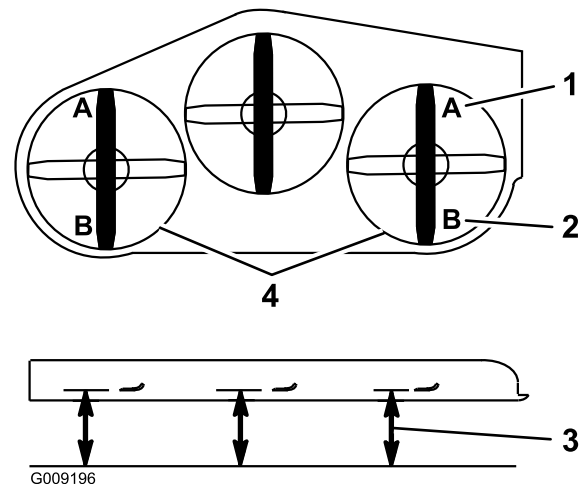

Figure 92
9. On both sides of the deck, measure from the level surface to the front tip of the blade (Position A) as shown in Figure 92.
- On both sides of the deck, measure from the level surface to the back tip of the blade (position B) as shown in Figure 92.